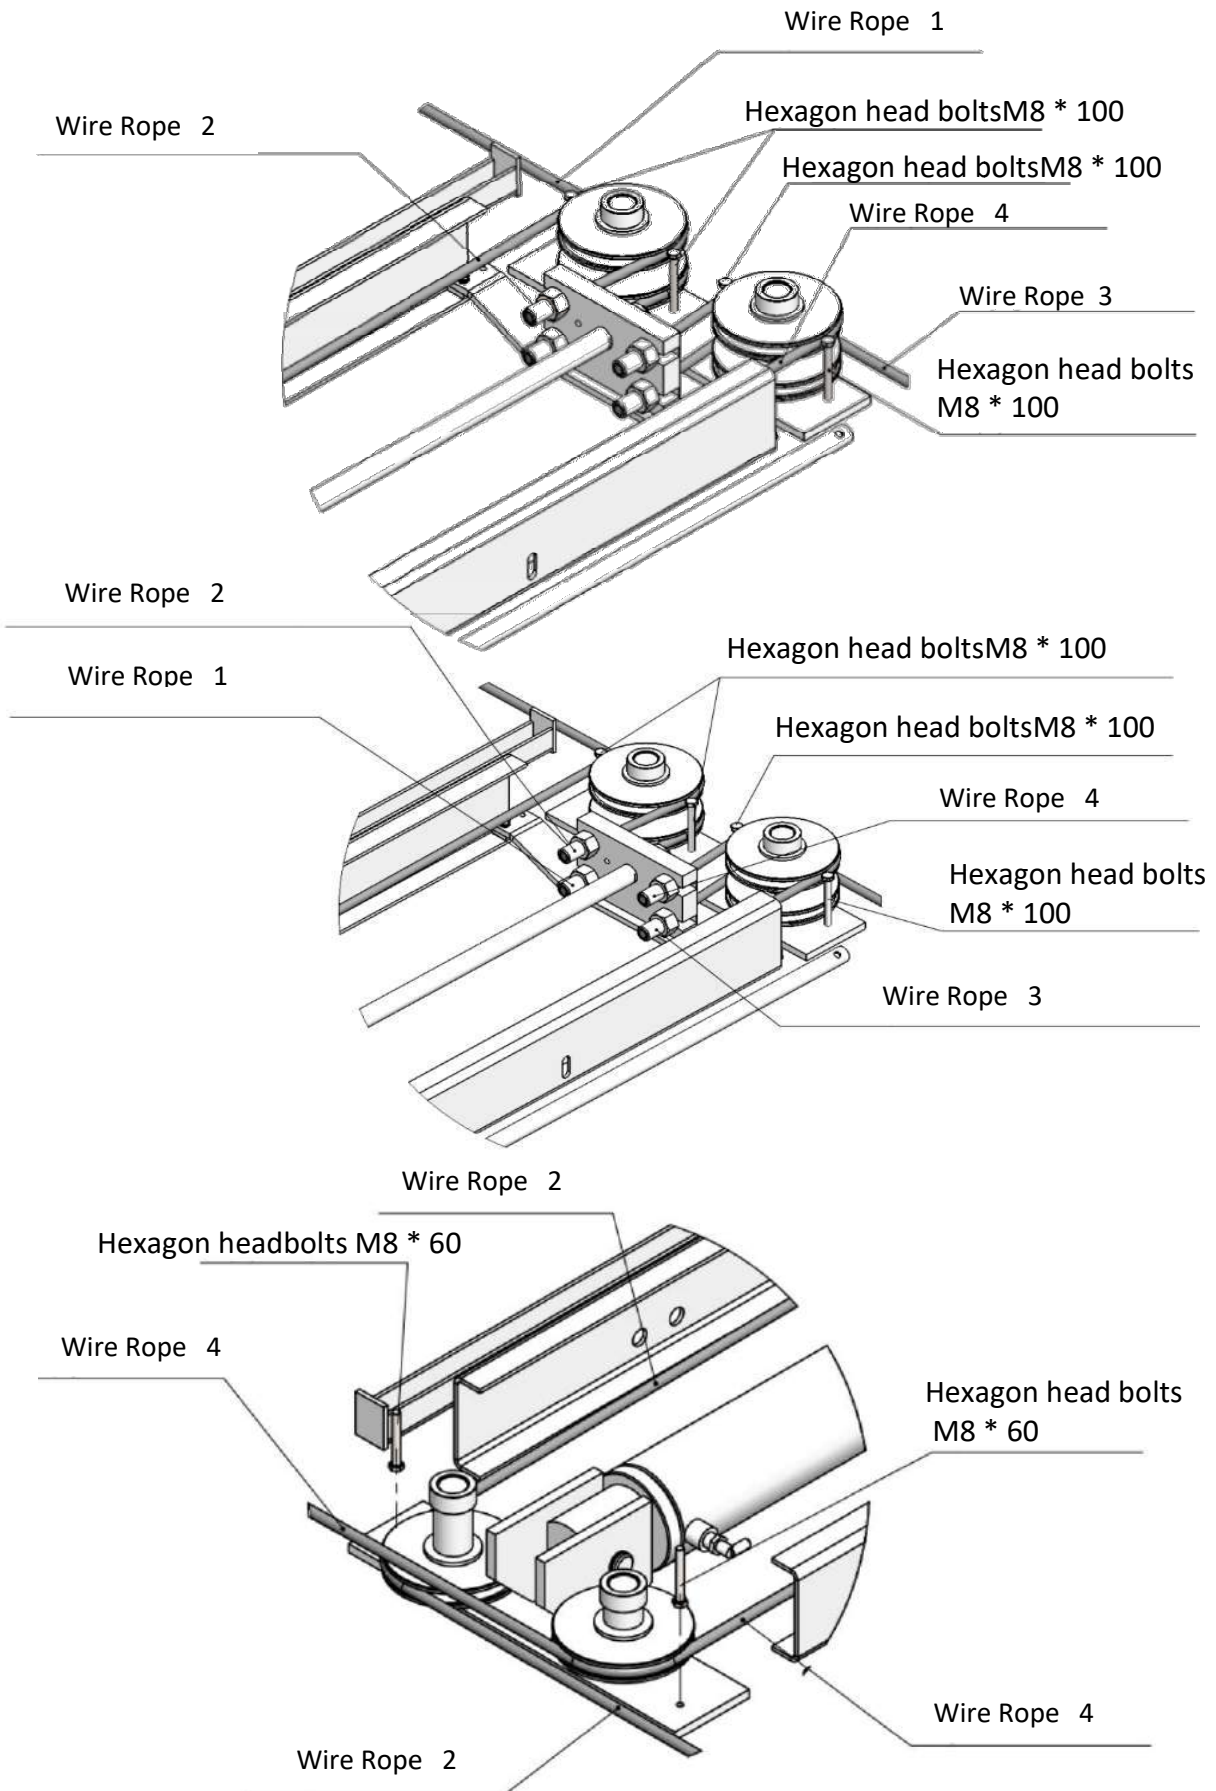

Fig.21
3. Illustration for cables under platform . (See Fig.21)